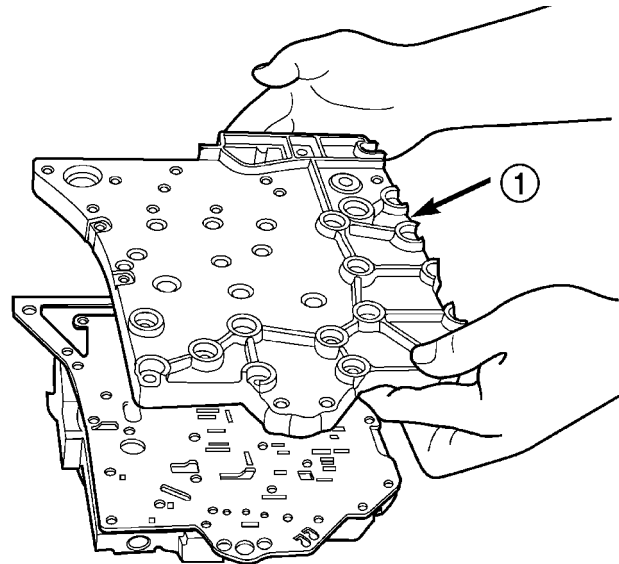

Fig. 341 Install Transfer Plate
(10) Install transfer plate to valve body and separator plate. Make sure oil screen and #5 check valve do not bind (Fig. 341).